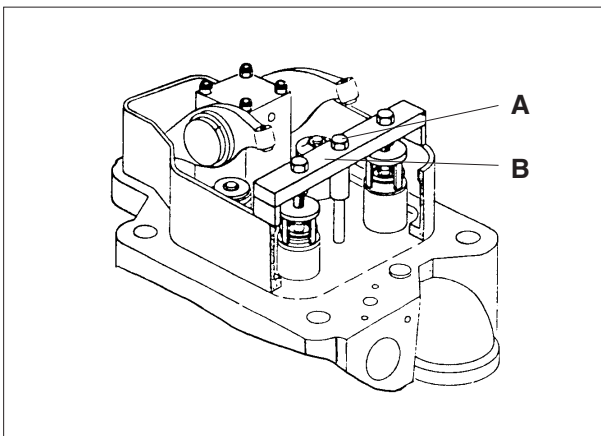

Fig 1.
5) Compress the valve springs by tightening nut A, see fig 1.
8) Remove nut A and traverse B, see fig 1.